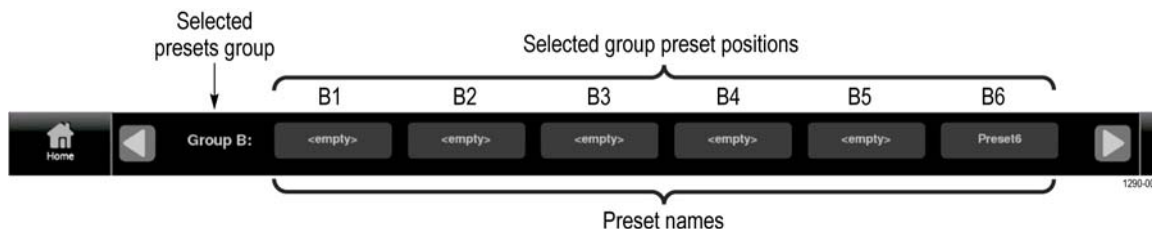

Figure 53: Preset selection controls (Group B shown)
- e. When you select OK, the preset name changes from **<empty>** to **Preset<number>**, where the number is the preset position within the preset group. (See Figure 53.)
1. Touch the **Presets** (★) icon to open the Preset selection controls at the bottom of the PRISM display. (See Figure 53.)